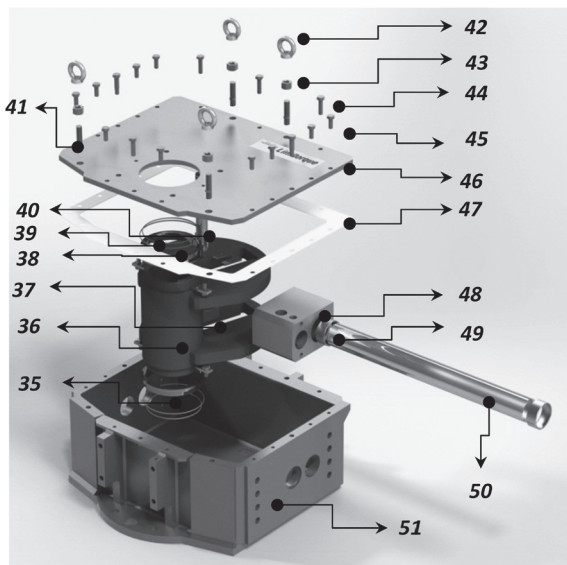

Figure 26: Exploded View of Housing
- 3.2.7 Change the adapters. Replace the adapters (54 and 55) designed for fail close (open) action, with the new ones designed for the opposite action. Take care to choose the adapter kit suitable for the Scotch yoke type in use (symmetric or canted). The guide block (48) of the symmetric Scotch yoke is marked with the “S” letter on the top face, while the guide block of the canted Scotch yoke is marked with a “C” letter on the top face, as shown in the pictures at right.
NOTE: The spring can adaptor (55) and cylinder adaptor (54) can be inserted in the guide block in one way only, pending on the Fail Close (CW) or Fail Open (CCW) configuration. Component numbers are referred to in Figures 26 and 27.